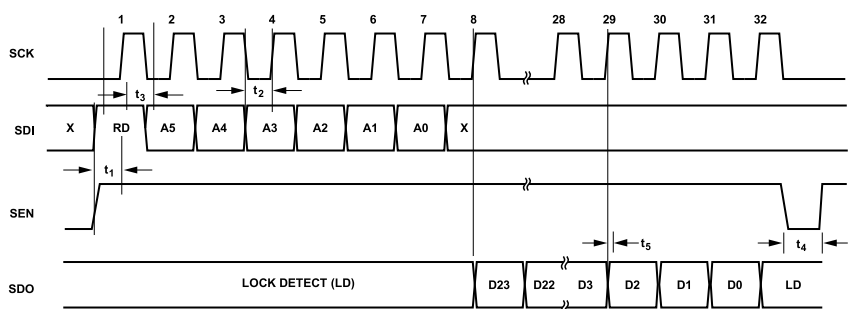

Figure 29. Legacy Mode: Serial Port Timing Diagram, Read Cycle
A typical legacy mode read cycle is shown in Figure 29.
1. The master (host) asserts both SEN and SDI to indicate a read cycle, followed by a rising edge on SCK. Note that the lock detect (LD) function is usually multiplexed onto the SDO pin. It is suggested that LD only be considered valid when SEN is low. In fact, LD does not toggle until the first active data bit toggles on SDO and is restored immediately after the trailing edge of the LSB of the serial data output, as shown in Figure 29.